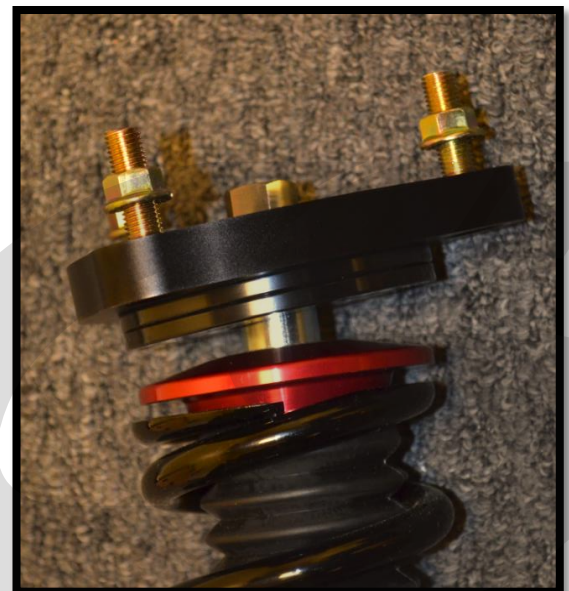

Figure 1d
d) **Tighten down the bolt removed in step 1a.** Hand tighten the bolt. You will torque it down at the end of step 2. Final assembly is shown in **Figure 1d**.